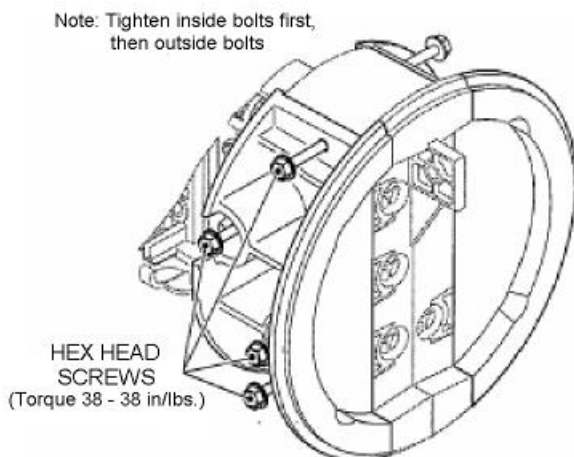

Figure 11 - Tightening Sequence for C-Halves
16.02 Apply lubricant to the gasket surfaces of the C-Half sections and tighten firmly the four (4) captive hex bolts. Use a 216 style tool (or 3/8" socket) and tighten inside bolts first then tighten outside bolts. Refer to **Figure 11 – Tightening Sequence for C-Half Sections**, and **Photo 15 – Lubrication of C-Half Section Gaskets**, and **Photo 16 – Tightening of C-Halves**.